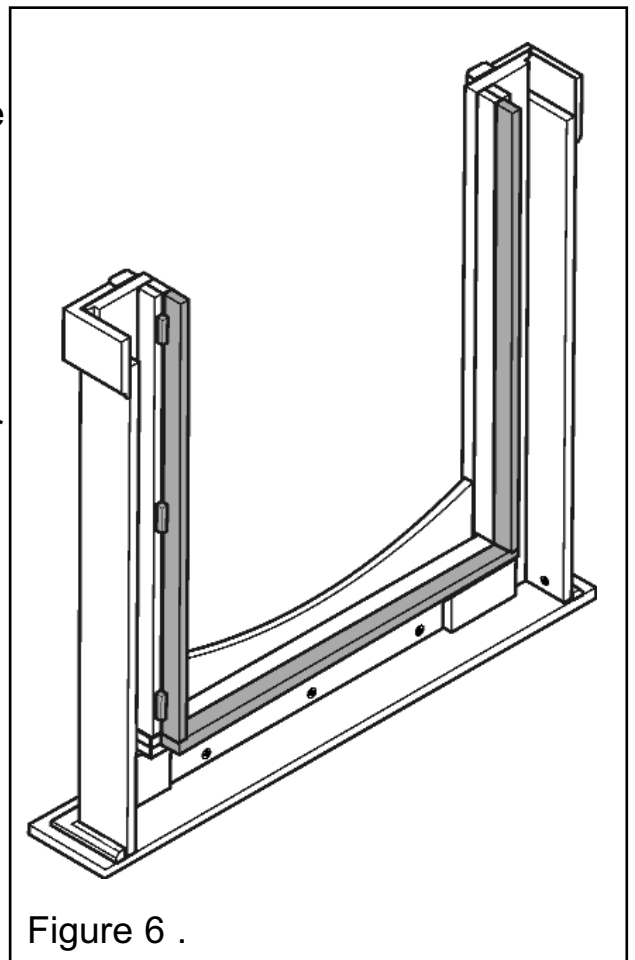

Figure 6 .
- The surround is supplied for use with gas fire installations. For rebated electric heater installations the infill strips (Gas rails) will need to be removed. To do this simply unscrew and remove the screws from the gas rails. The gas rails are highlighted in figure 6.